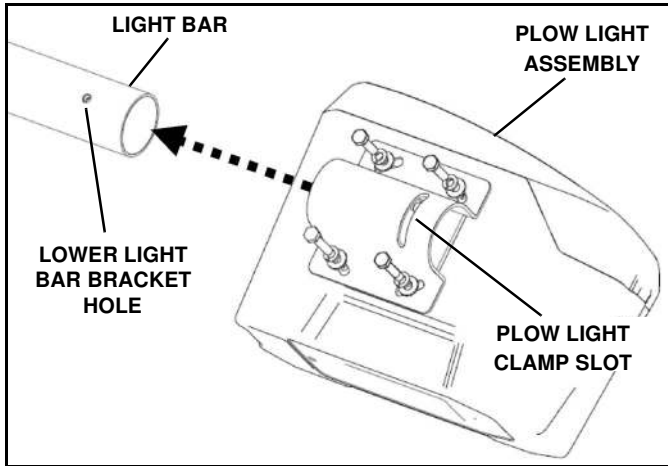
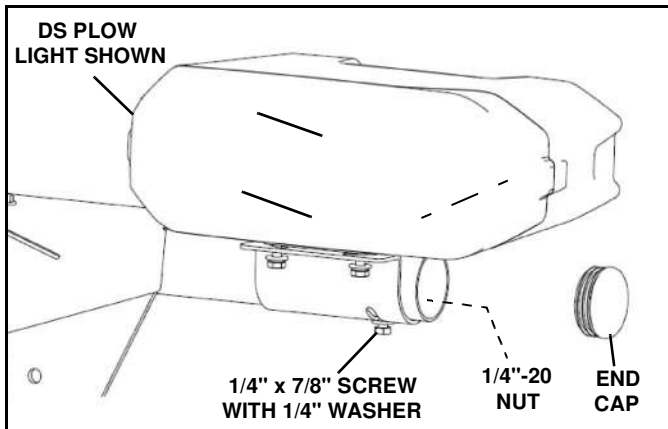

Figure 1-23
Figure 1-24
14. Slide the plow lights onto the respective ends of the light bar bracket, aligning the hole in the bottom of the bracket with the slot in the plow light clamp (See Figure 1-23)
15. Install a 1/4" x 7/8" screw with 1/4" washer through each clamp and light bar and loosely secure with a 1/4"-20 nut (See Figure 1-24)
18. Aim plow lights with plow in the fully raised position. Lock the lamps in the adjusted position by tightening four 1/4" x 7/8" horizontal adjustment screws and one 1/4" x 7/8" vertical adjustment screw and 1/4" nut securely (See Figure 1-23 and Figure 1-24).
19. Install an end cap in each end of the light bar (See Figure 1-24)